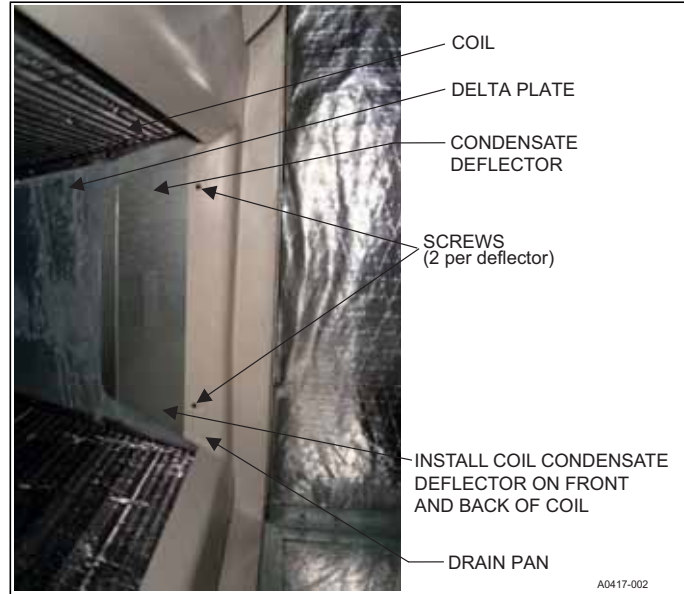

FIGURE 15: Coil Condensate Deflector Installation
- d. Tighten screw to secure coil condensate deflectors. See Figure 15.